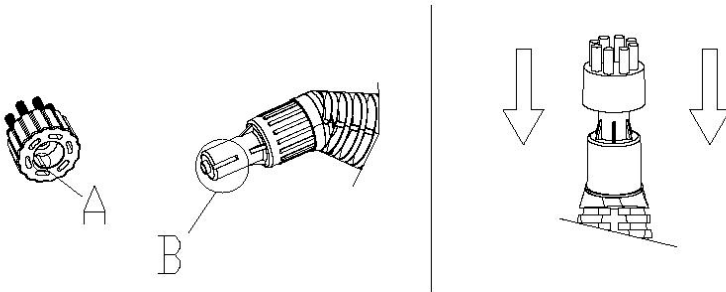

FIGURE 5
1. Align guide tab on inside of Utility Brush (FIGURE 5-A) with groove in bottom of Steam Jet Nozzle tip (FIGURE 5-B).
2. Firmly press Utility Brush onto tip of Steam Jet Nozzle. Press it on as far as possible to prevent steam leakage (FIGURE 5-C).